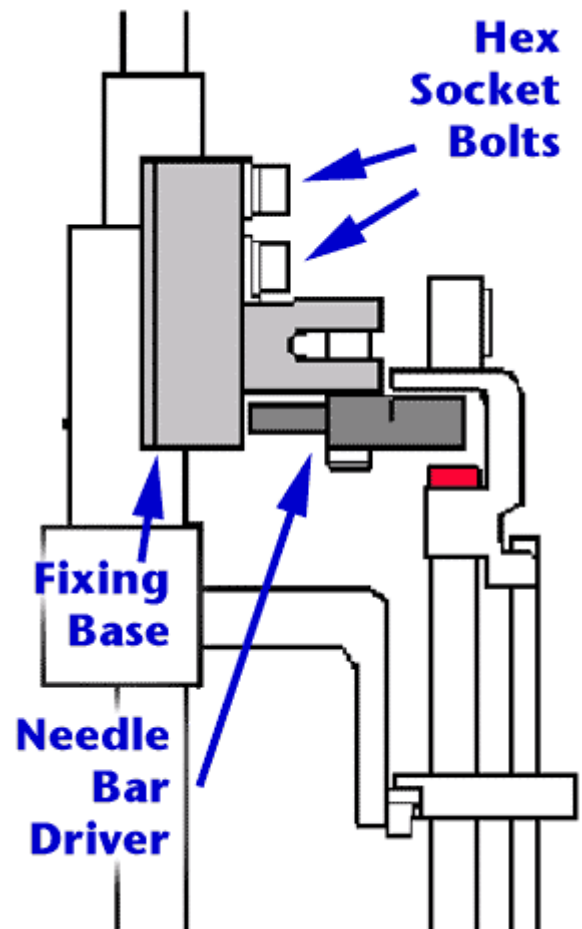

Fig. 3- Side view of needle
7. Look behind the needle bars, and inspect the red caps. (see figure 3)
See figure 3